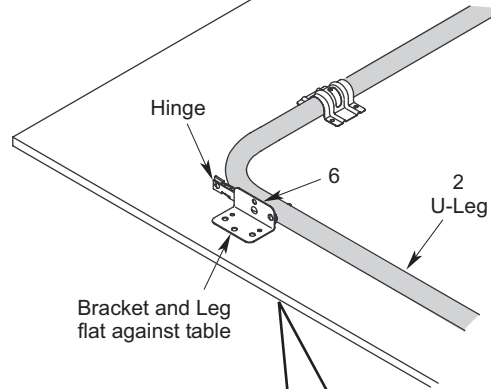

Figure 5
- A. Push U-leg #2 and hinge assembly flat against top. See Figure 5.